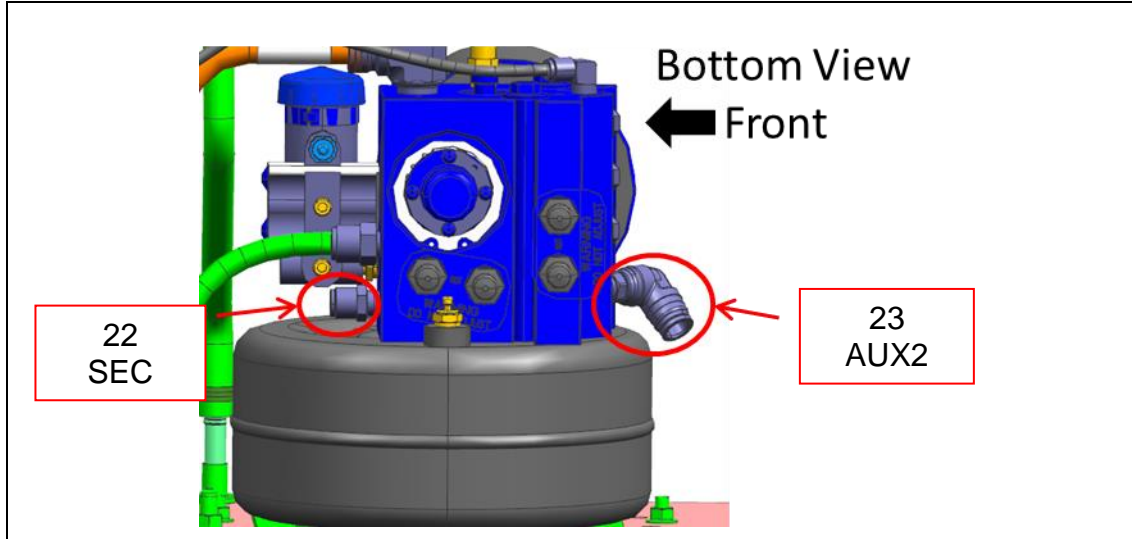

Figure 6
- Remove the two connectors from air dryer located at ports “22 SEC” and “23 AUX” and discard. (See Figure 6.)